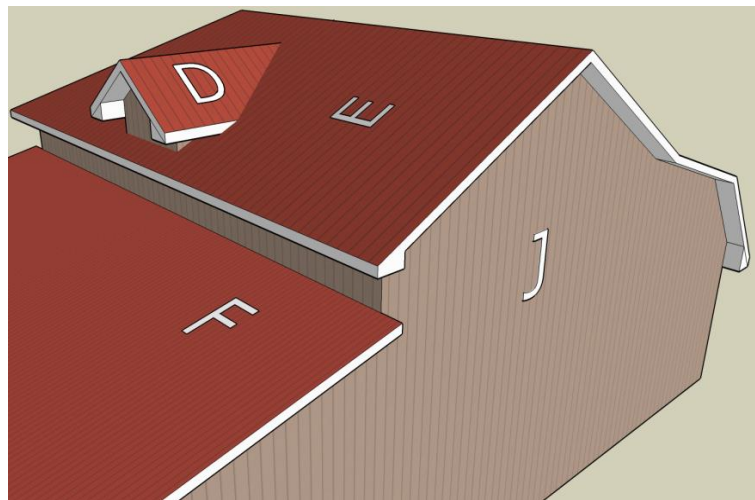

Figure 2
- **Valley Flashing** is used in areas where the panel ribs meet each other at angles, such as between sections **C** and **B** or **D** and **E** (Fig2). The valley flashing is put down before the roofing panels, and the panels laid on top of it, so that the water from both sides runs downhill toward the center of the valley.